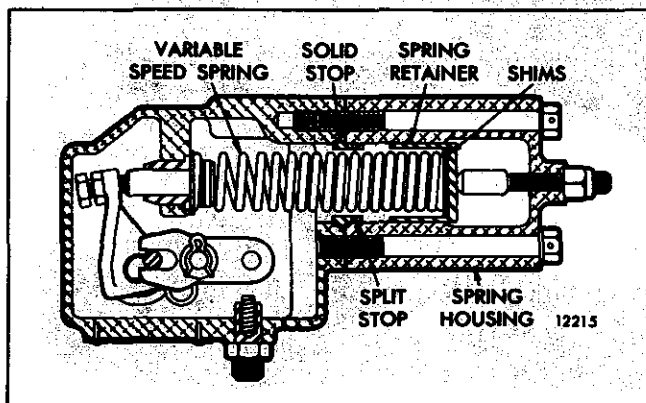

Fig. 5 - Location of Shims and Stops
3. Refer to Table 1 and determine the stops or shims required for the desired full-load speed (Fig. 5). Do not use more than four thick and one thin shim. A split stop can only be used with a solid stop.